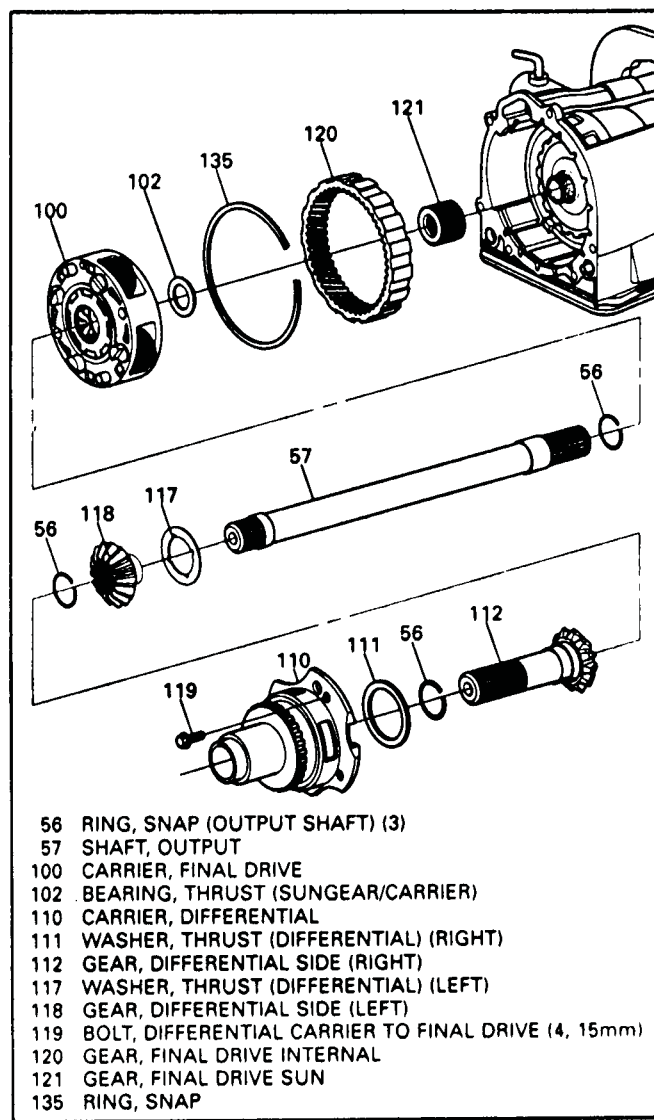

Figure 44
2. Remove the four 15mm differential bolts (See Figure 44).
3. Remove the differential carrier(110) (See Figure 44).
4. Remove output shaft snap ring, as shown in Figure 44.
5. Remove the left side differential gear (See Figure 44).
7. Remove thrust washer (117), as shown in Figure 44.
8. Remove the final drive carrier as shown in Figure 44.
9. Remove thrust bearing (102) as shown in Figure 44.
11. Remove snap ring from case that retains final drive ring gear (See Figure 44).